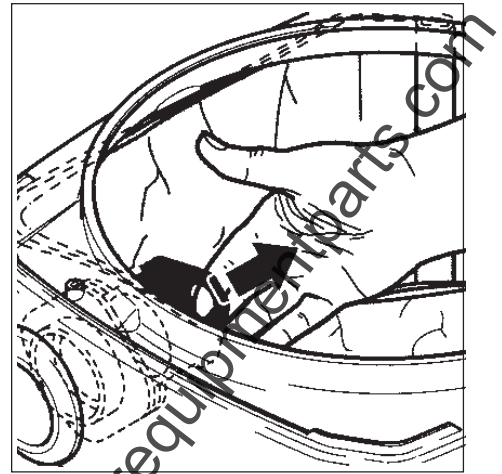

Figure 9
1. Close the bag-type filter sleeve with the slide (Figure 9).